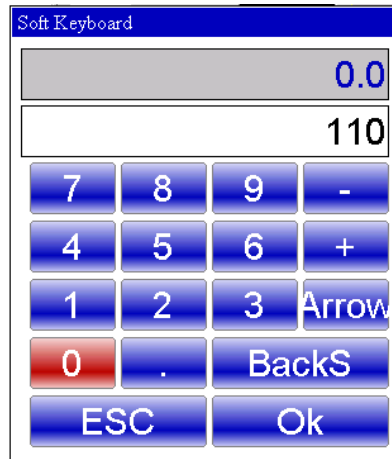

Figure 28 Soft Keyboard for setting not predefined angle of the piece
- by touching one of the height arrows starting from this  in the clockwise direction, the next segment will be taken to different predefined angles, that is 45, 90, 135, 180, -135,-90, -45. Pressing the soft-key  is possible introduce angles different from the predefined, like showed in figure 28